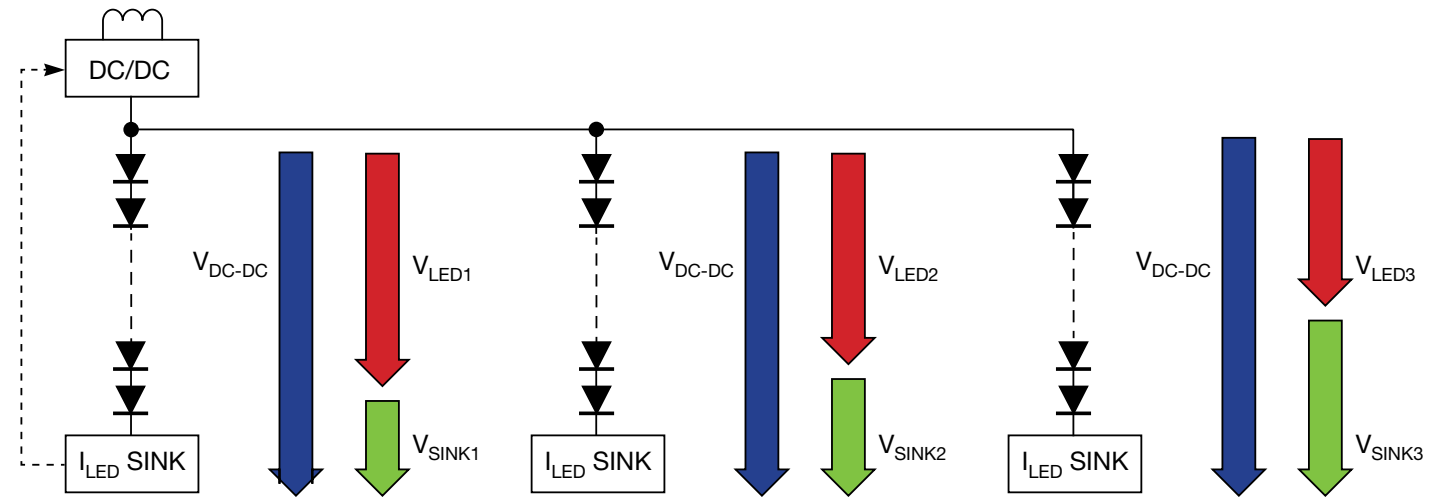

Figure 4 With one dc/dc converter serving multiple LED strings, SMPS voltage is not optimized.
--transient response of ~30 mV (Figure 4).
A more radical approach to reducing BOM cost can be found in the multi-string, single-dc/dc-converter topology (**Figure 4**). The drawback of this approach is that the SMPS voltage must be regulated higher than the LED string with the highest forward voltage, which means that it operates at a higher voltage than is necessary for those strings with a lower forward voltage. As a result, the  $I_{LED}$  sink must dissipate the excess power from the strings with lower forward voltage, generating heat that must be conducted away from the circuit board and resulting in reduced power efficiency.